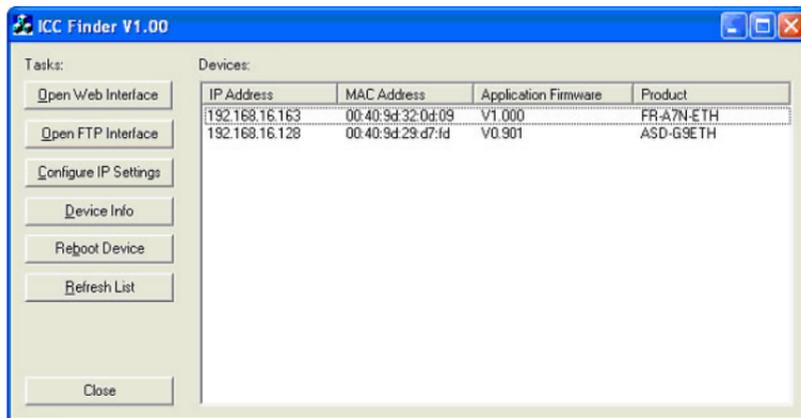

Figure 1: ICC Finder Discovery Utility
The “ICC Finder” application is a simple Windows PC program (just a single .exe file, no installations, DLL’s etc.), which when executed discovers all ICC communication interfaces on the current Ethernet subnet, regardless of whether or not their network parameters are currently compatible with the subnet upon which they reside. Refer to Figure 1.
3. The discovery utility scans the network for ICC devices and then lists each device's **IP Address**, **MAC Address**, **Firmware Version** and **Product ID**. Refer to Figure 1 on page 28. Identify your device by its unique MAC address (printed on a label on the top of the Ethernet network jack).